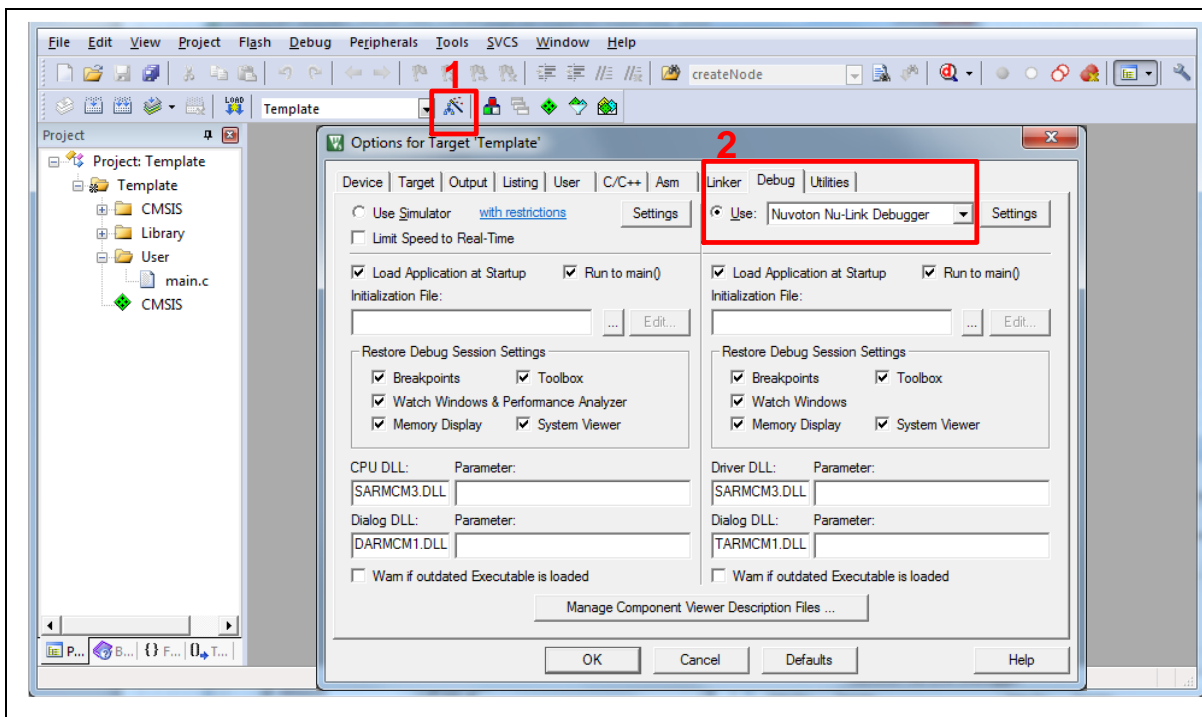
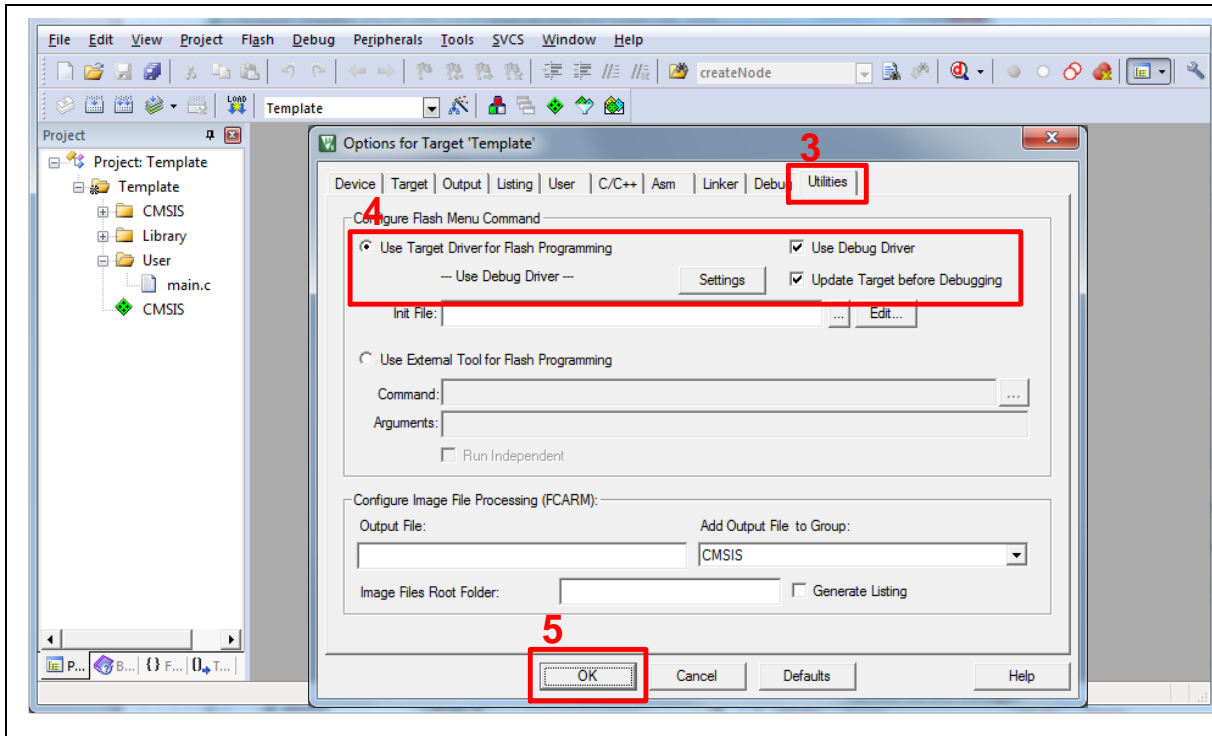

Figure 5-8 Debugger Setting in Options Window
Figure 5-9 Programming Setting in Options Window
2. Make sure the debugger is “Nuvoton Nu-Link Debugger” as shown in Figure 5-8 and Figure 5-9.
**Note:** If the dropdown menu in Figure 5-8 does not contain “Nuvoton Nu-Link Debugger” item, please rework section 5.2.